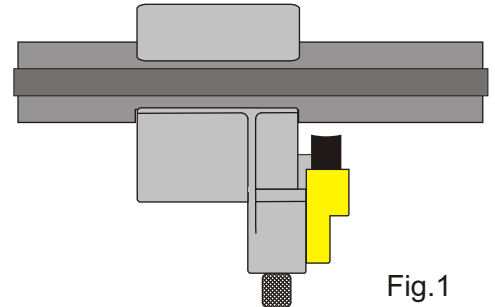

Fig.1
1. Place the tool on the cable in the area where the insulation needs to be removed. Squeeze and hold jaws together and tighten the jaw locking knob. (Fig.1)